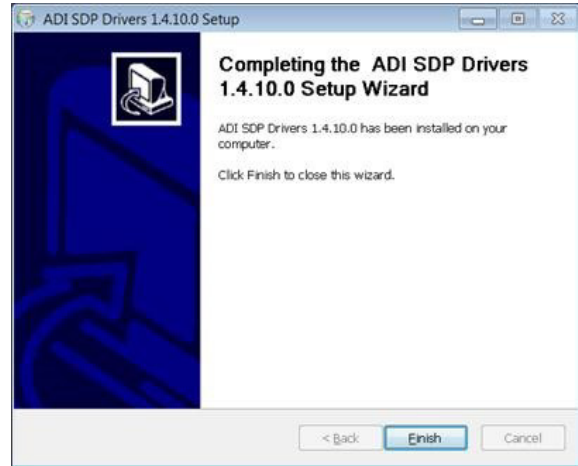

Figure 9. Driver Installation Complete
4. Click **Finish** to complete the driver installation (see Figure 9).